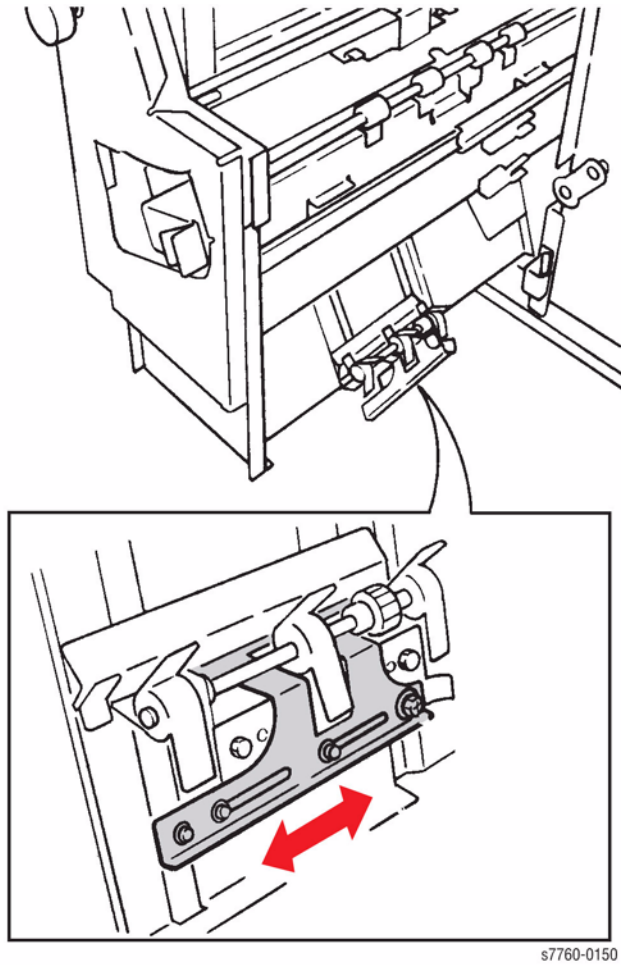

Figure 3 Adjusting the Fold Skew
2. Adjusting the Booklet skew (Figure 3).